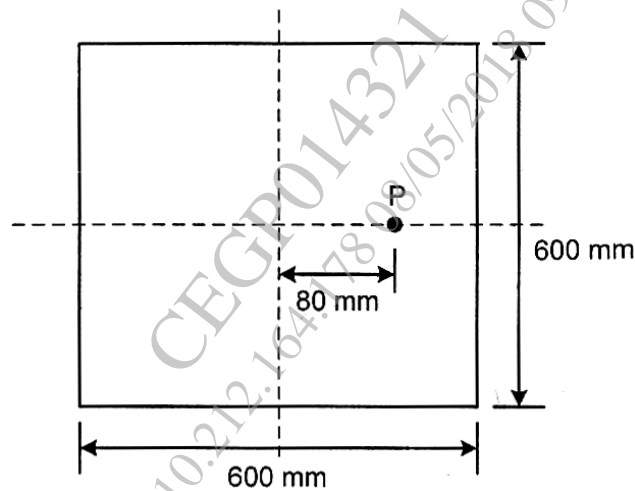

Fig.7
- b) A short masonry pillar 600 mm \times 600 mm in section. The pillar carries an eccentric load of 1000 kN acting at an eccentricity of 80 mm from the longitudinal axis as shown in fig.7 . Find the maximum and minimum stresses on the section. [7]